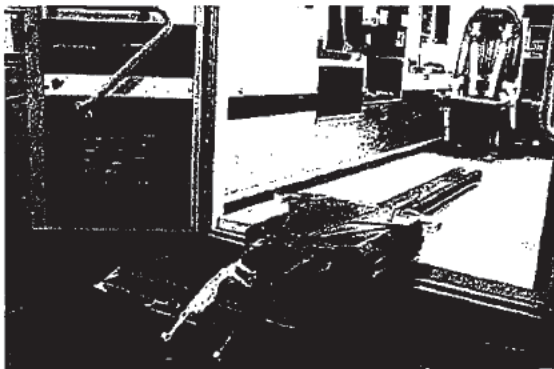

Figure 35
- Loading and/or unloading an occupied cot into a vehicle requires a minimum of two (2) trained operators.
2. Raise the lifting arms to guide and pull the trolley out of the vehicle patient compartment as shown in Figure 35.